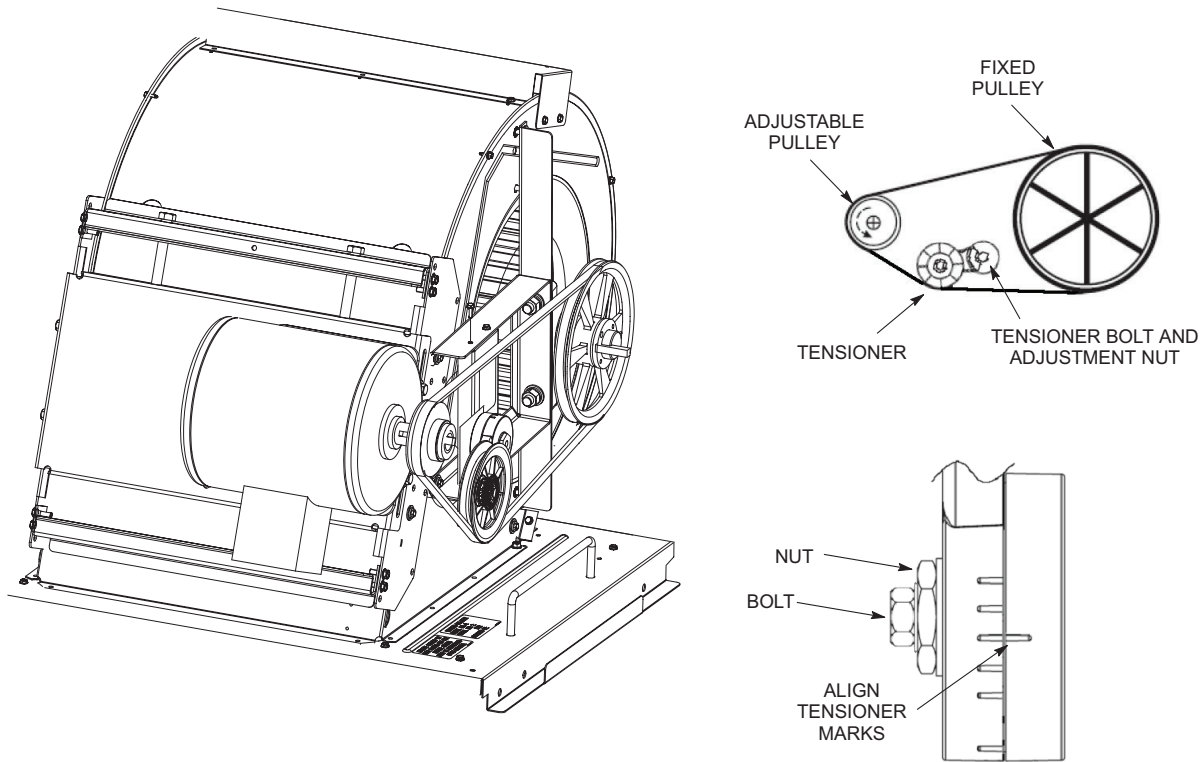

FIGURE 14
- 1 - Loosen the bolt in the center of the tensioner. See FIGURE 14.
- 3 - Using a 15/16" wrench, turn the tensioner nut until marks align as shown in FIGURE 14.